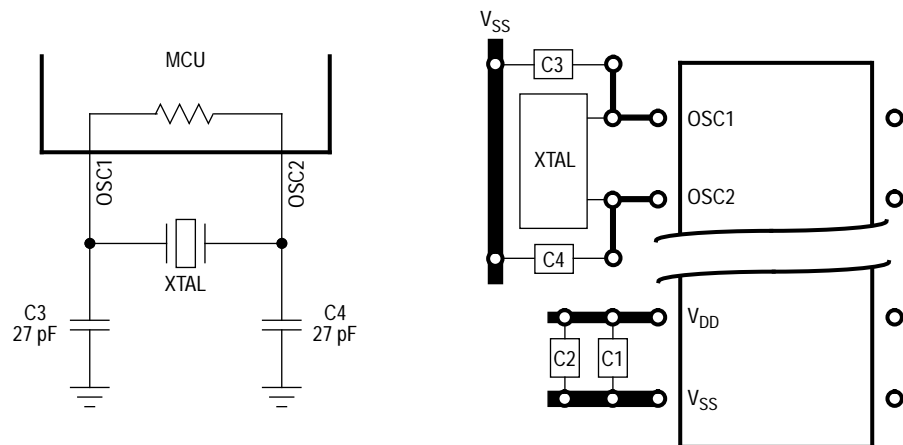
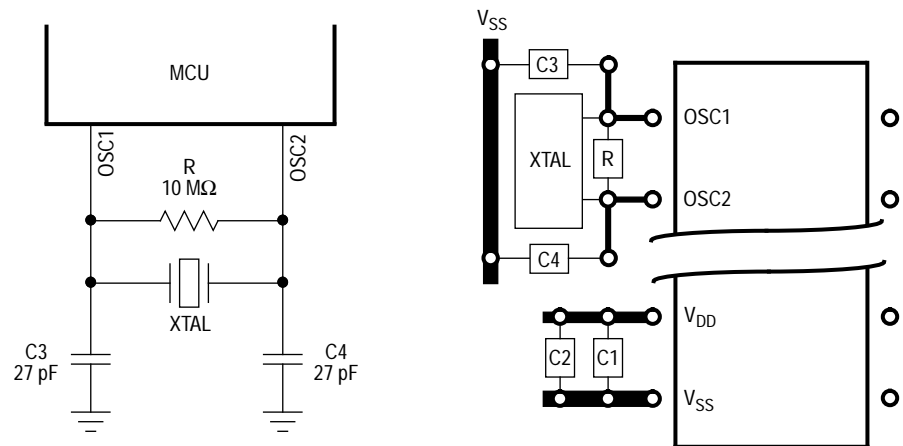

Figure 3. Crystal Connections with Oscillator Internal Resistor Mask Option
Figure 4. Crystal Connections without Oscillator Internal Resistor Mask Option
1. Crystal (See Figure 3 and Figure 4.)
Figure 3 and **Figure 4** show a typical crystal oscillator circuit for an AT-cut, parallel resonant crystal. Follow the crystal supplier's recommendations, as the crystal parameters determine the external component values required to provide reliable startup and maximum stability. The load capacitance values used in the oscillator circuit design should include all stray layout capacitances.